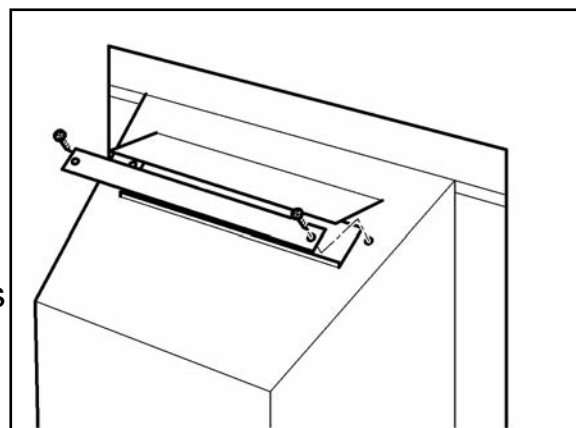

Figure 13. Flue restrictor
5. This appliance is supplied with a flue restrictor for use where the flue draught is excessive. Generally we recommend the restrictor is NOT fitted where a precast flue, metal flue box or a flue liner is used, however, certain flues may work sufficiently to warrant its use. There may however, be circumstances where fitting the restrictor causes the fire to fail the spillage test. In such cases the restrictor will have to be removed. After removal conduct the spillage check again. The restrictor is packed loose with the appliance and is fixed with two screws (See figure 13).